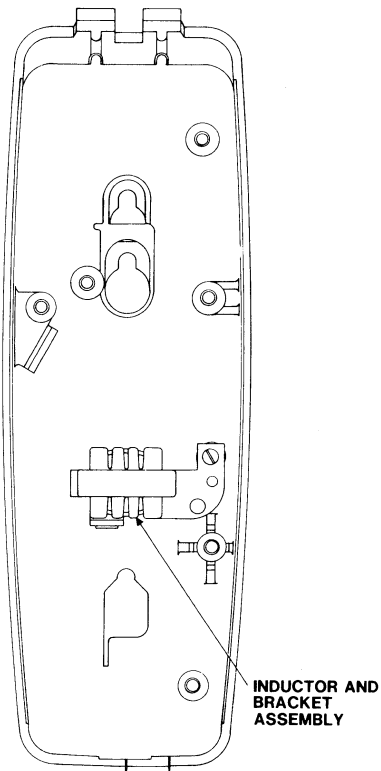

Figure 6. Mounting Inductor in Type 981B and 982B STYLELINE Bases.
3.09 To mount the inductor assembly kit (D-284686-C) in a Type 981B or 982B STYLELINE base, refer to Figure 6 and proceed as follows: